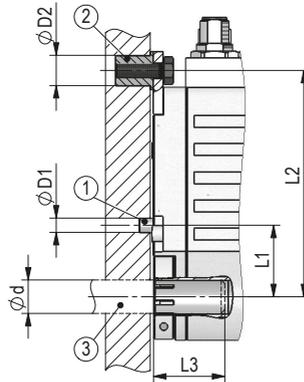
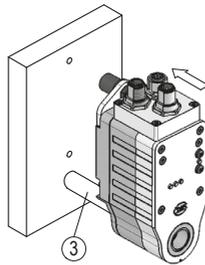
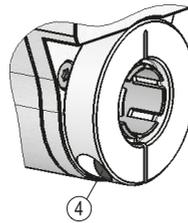
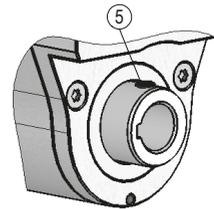

Fig. 1: Mounting dimensions
Fig. 2: Mounting
Fig. 3: Fastening torque for screws
Fig. 4: Shaft with feather key groove
- ▶ Ensure a low shaft and angle offset between shaft and accommodation bore by applying appropriate manufacturing methods (see Fig. 1 + Tab. 1).
Preparing mounting (Fig. 1, Fig. 2, Fig. 3):
Mounting (Fig. 1, Fig. 2, Fig. 3, Fig. 4):